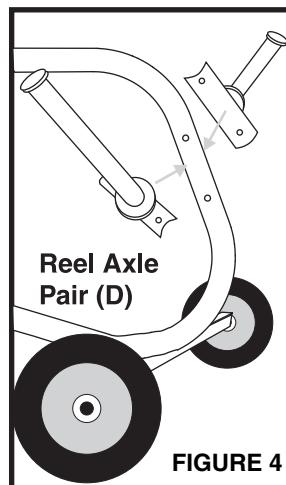

FIGURE 4
5 Attach Reel Axle Pair #2 (D) to the back of Support Frame (A) using the 3/8 x 16 x 2-3/8" Carriage Bolts (1), 3/8 x 1" Flat Washers (2) and 3/8 x 16 Nylon-Insert Locknuts Hex Thin (5) as shown in Figure 4.